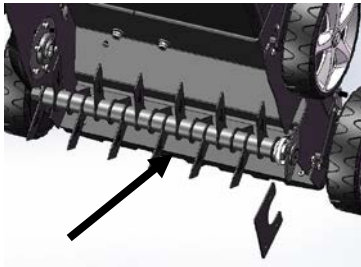
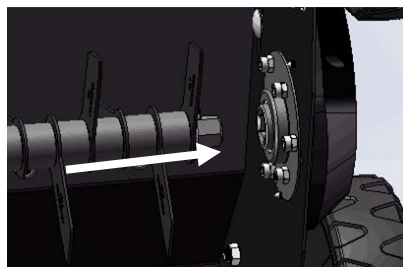
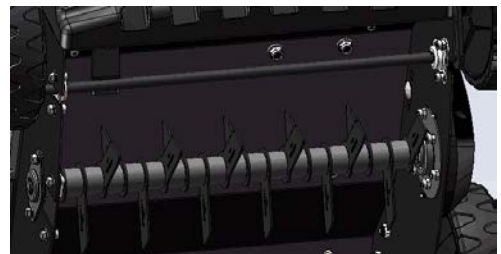

Fig.11C
Fig.11D
Fig.11E
2. Lift the roller and pull out in the direction of the arrow. (Fig.11C)
1. Slide the new roller in the direction of the arrow, insert the shaft into the hexagonal socket and press the other side into the holder (Fig.11C/ Fig.11D/ Fig.11E).